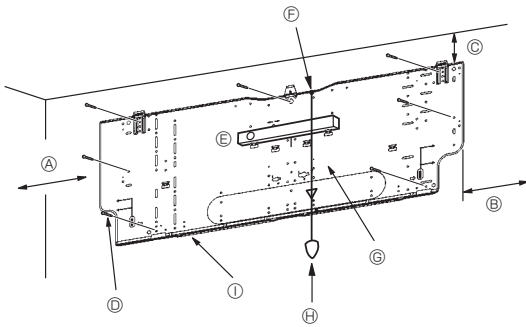
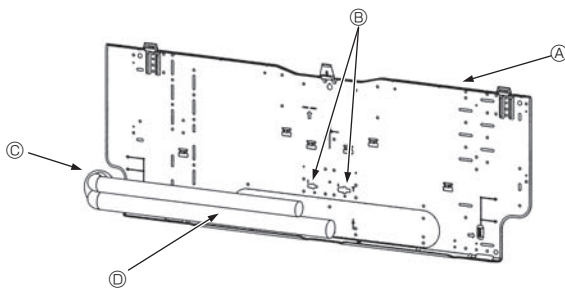

Fig. 3-4
Fig. 3-5
■ PKA-RP60, 71, 100KAL (Fig. 3-4)
- Ⓓ Fixing screws (4 × 25) ②
- Ⓘ Mount board ①
3.3. When embedding pipes into the wall (Fig. 3-5)
- Ⓐ Mount board ①